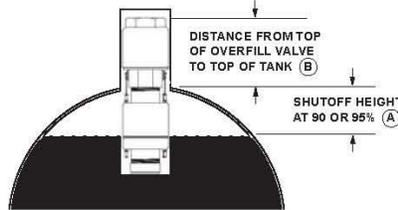
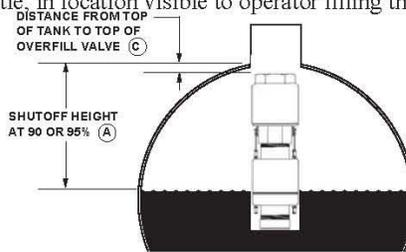

FIGURE 2
FIGURE 3
2. Determine the SHUTOFF HEIGHT at 90 or 95% full. (See Fig. 2 or Fig. 3 below & Mfg. tank chart).
3. If your SHUTOFF HEIGHT is less than 13" for use in gasoline or diesel fuel, then; YOU MUST INSTALL THE OVERFILL DEVICE ON A RISER PIPE using Table 2 and Fig. 2 to determine THE DISTANCE FROM THE TOP OF THE OVERFILL VALVE TO THE TOP OF THE TANK .
4. If your SHUTOFF HEIGHT is 13" or more for use in gasoline or diesel fuel, then use Table 3 and Fig. 3 to determine THE DISTANCE FROM THE TOP OF THE TANK TO THE TOP OF THE OVERFILL VALVE .